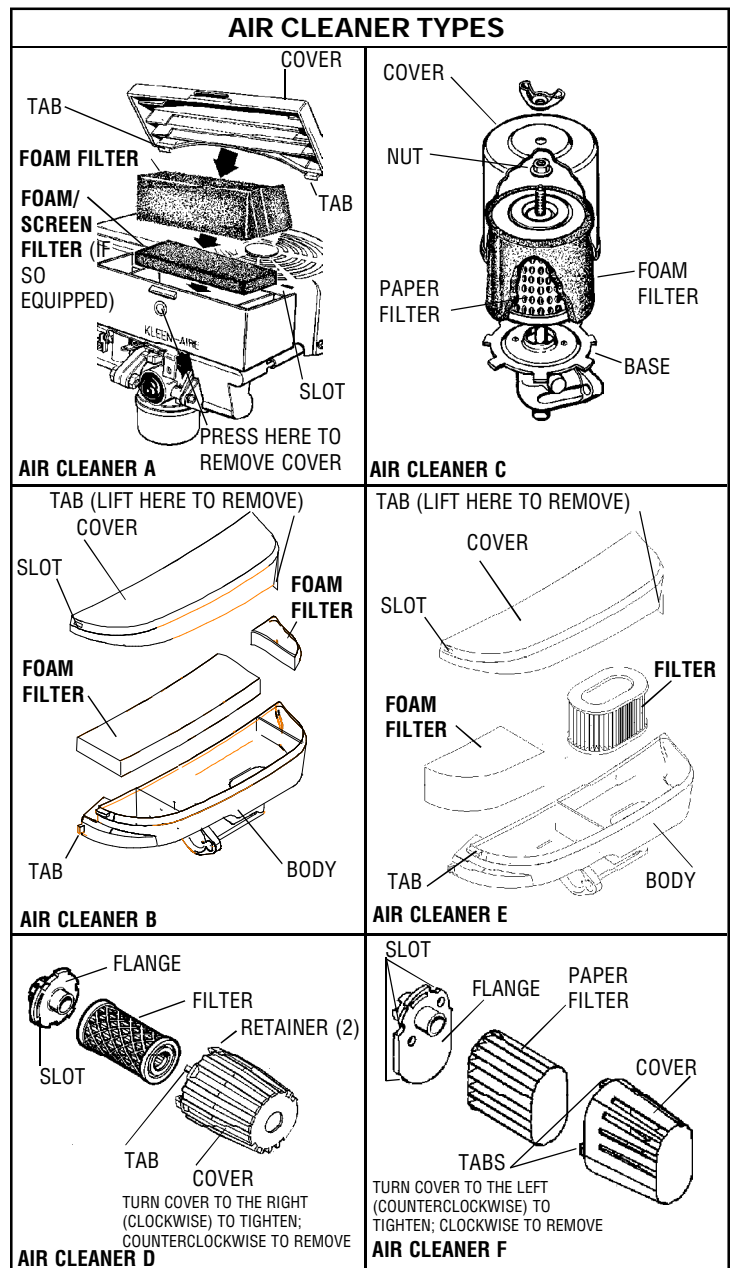

Figure 8
A. TO SERVICE FILTER(S) (see Figure 8):